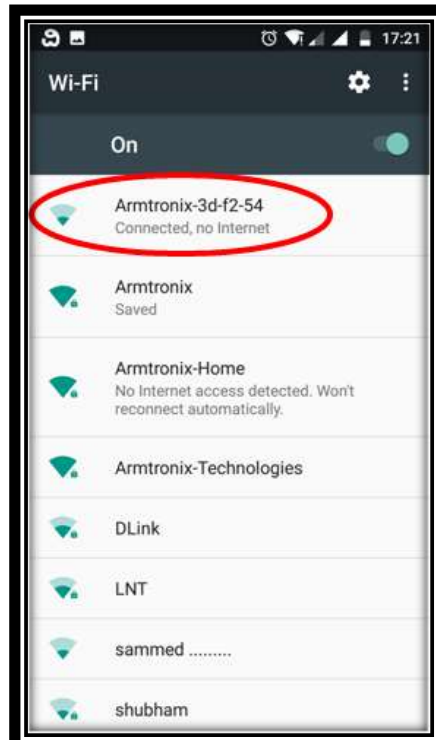

Figure 9: Smartphone Connected to Wifi hosted by DIO board
- x. Clicking on Enter button after entering default IP address, you will be able to access its webpage as shown in Figure 9.